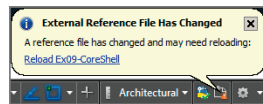

FIGURE 9.31 Balloon notification that an Xref has changed
9. A balloon appears in the drawing status bar informing you that an external reference has changed (see Figure 9.31). If no notification balloon appears, right-click the Xref that needs to be reloaded in the External References palette and choose **Reload**. Click the hyperlinked blue text in the balloon to reload the Ex09-CoreShell Xref. The changes made to the women's washroom are now visible in the tenant drawing.